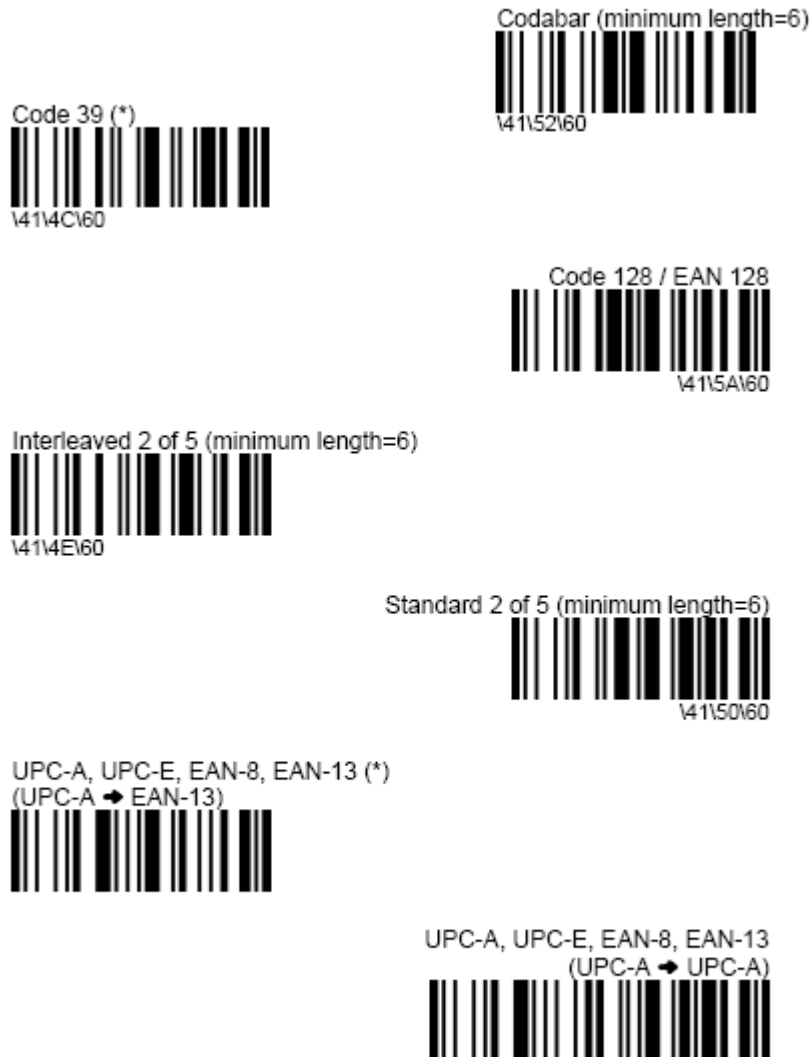

Figure 5-1 Barcode Symbologies
1. Using the 922, scan barcode of the desired symbology from Figure 5-1 *Barcode Symbologies*